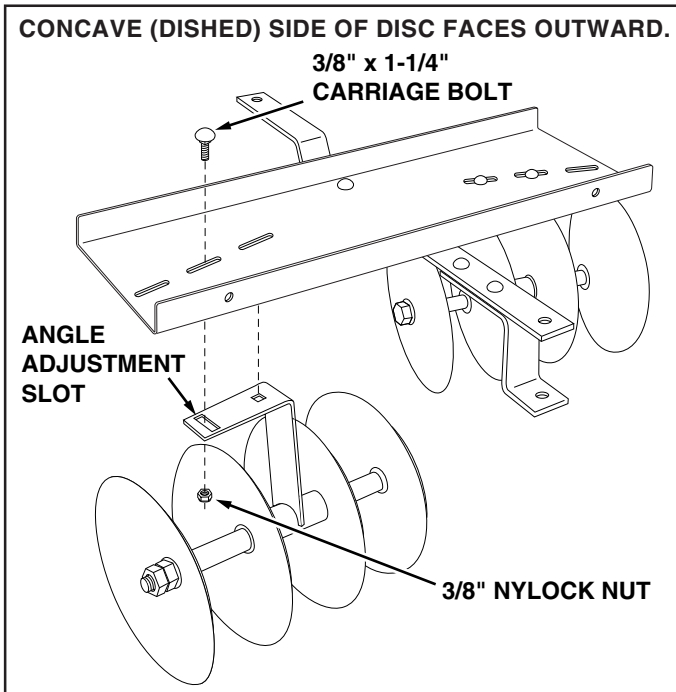

FIGURE 4
5. Assemble the disc assemblies to the tray using four 3/8" x 1-1/4" carriage bolts and 3/8" nylock nuts. Swivel the disc assemblies so that the carriage bolt is centered in the angle adjustment slot. **Tighten.** This places the discs at the standard 15 degree angle. See figures 4 and 5.
The front cultivator should be assembled as shown in figure 4. The rear cultivator should be assembled using the following instructions. Note that the position of the tray and drawbar are the reverse of the front cultivator.